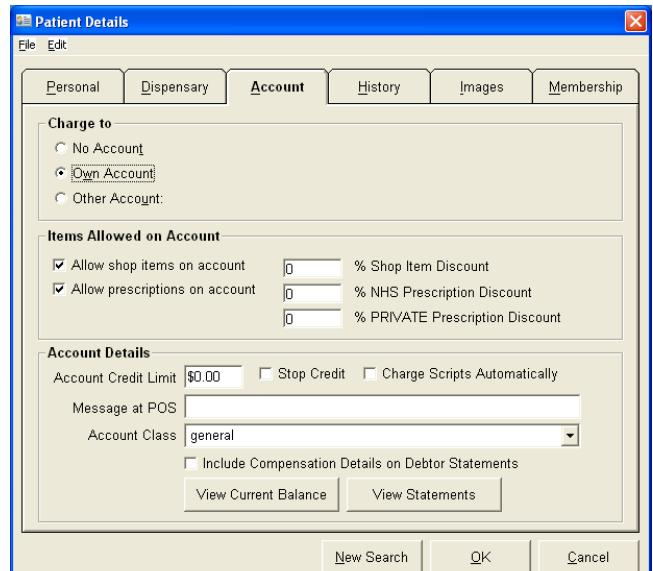

Figure 315
4. When the customer details are displayed, click onto the 'Account' Tab, and in the 'Charge to' section and select the 'Own Account' option (as shown in Figure 315).